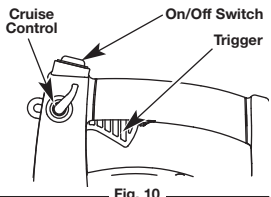
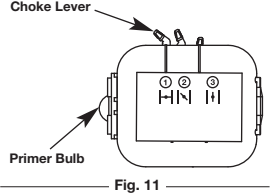

Fig. 10
Fig. 11
- NOTE:** There is no need to turn the unit on. The On/Off switch is in the **ON (I)** position at all times (Fig. 10).
2. Fully press and release the primer bulb **10** times, slowly. Some amount of fuel should be visible in the primer bulb (Fig. 11). If fuel cannot be seen in the bulb, press and release the bulb until fuel is visible.
3. Move the choke lever to **Position 1** (Fig. 11).
- NOTE:** The unit should be started in idle. Do not squeeze the trigger until step 8 (Fig. 10).
6. **Do not squeeze the trigger.** Move the choke lever to **Position 2** (Fig. 11).
8. Squeeze and hold the trigger, or press down the cruise control (Fig. 10), and allow the engine to warm up for 30 to 60 seconds.
9. **Continue to squeeze the trigger.** Move the choke lever to **Position 3** (Fig. 11).
2. Press and hold the On/Off switch in the **OFF (O)** position until the engine comes to a complete stop (Fig. 10).
- NOTE:** There is no need to turn the unit on. The On/Off switch is in the ON (I) position at all times (Fig. 10).
2. Fully press and release the primer bulb 10 times, slowly. Some amount of fuel should be visible in the primer bulb (Fig. 11). If fuel cannot be seen in the bulb, press and release the bulb until fuel is visible.
- NOTE:** The unit should be started in idle. Do not squeeze the trigger until step 10 (Fig. 10).
6. **Do not squeeze the trigger.** Press and hold the electric starter or drill's ON (I) button for 2 seconds.
7. **Do not squeeze the trigger.** Move the choke lever to **Position 2** (Fig. 11).
8. **Do not squeeze the trigger.** Press and hold the electric starter or drill's ON (I) button for 2-second intervals until the unit starts.
10. Squeeze and hold the trigger, or press down the cruise control (Fig. 10), and allow the engine to warm up for 30 to 60 seconds.
11. **Continue to squeeze the trigger.** Move the choke lever to **Position 3** (Fig. 11).
2. Press and hold the On/Off switch in the OFF (O) position until the engine comes to a complete stop (Fig. 10).